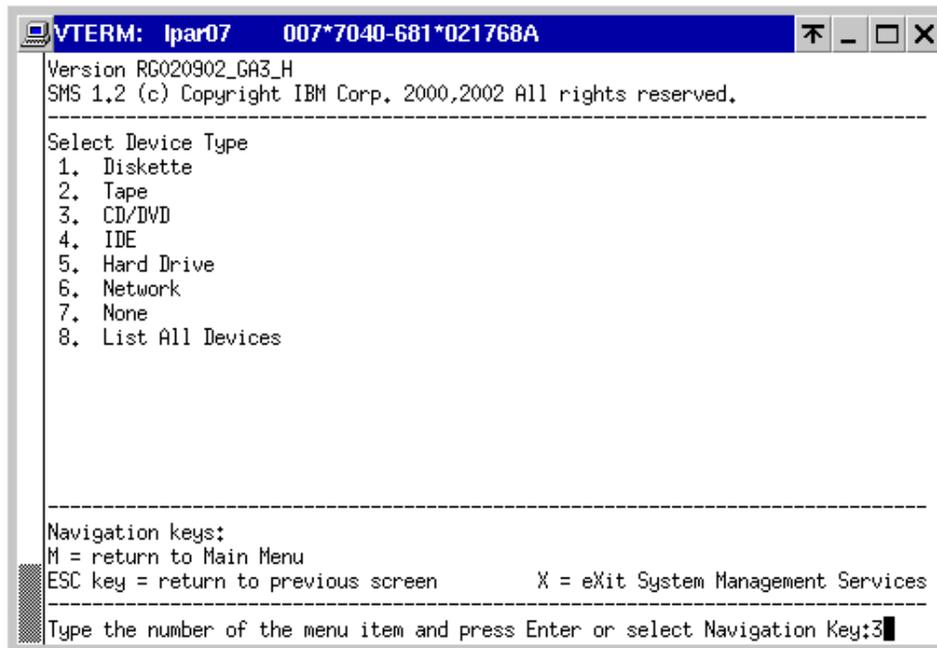

Figure 7-5 System Management Services: Select device type
12. Press 3 to select **3. CD/DVD**, as shown in Figure 7-5.